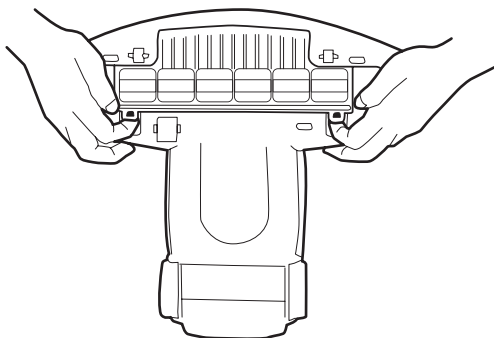

Figure 8
1. Detach the protective grill on the bottom of the base unit by pulling up the two tabs at the back of the covering. Set the cover aside (see Figure 8).